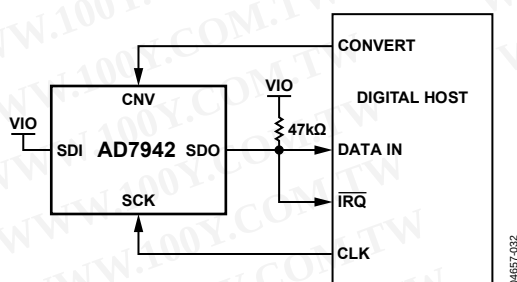
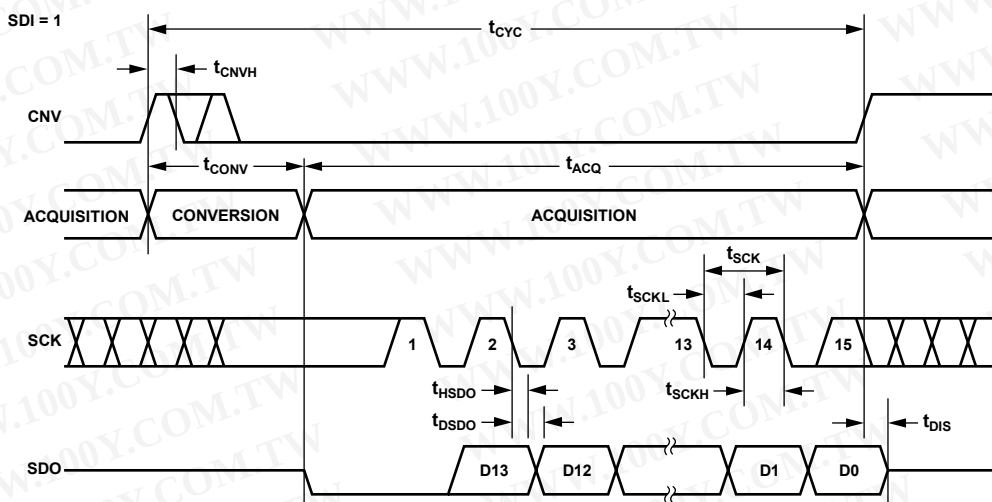
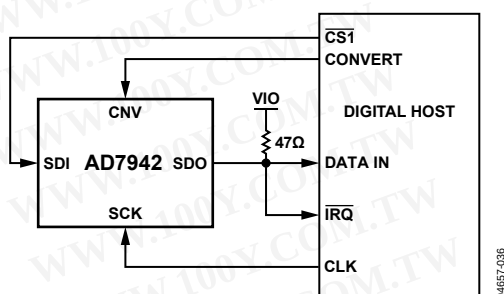
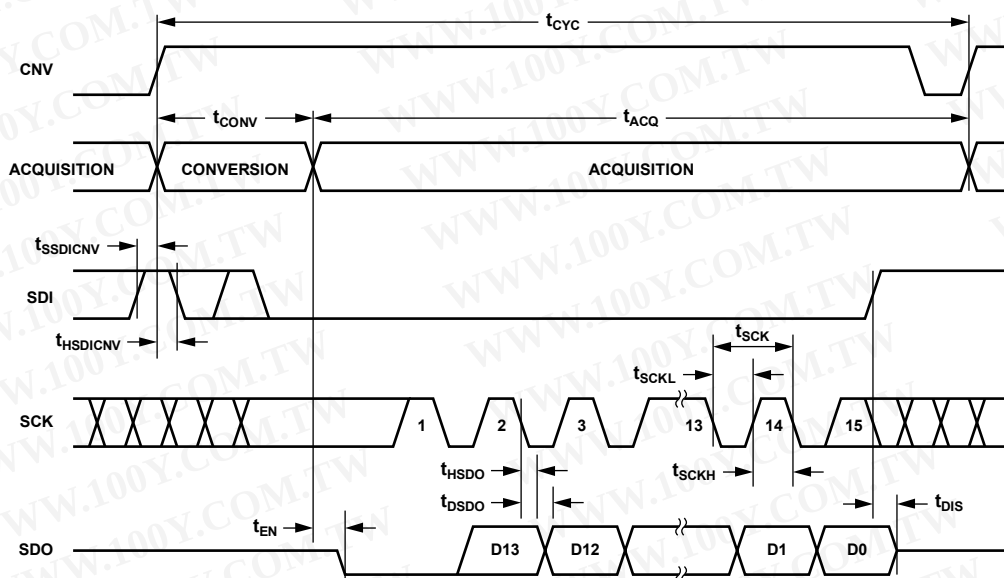

Figure 32. $\overline{CS}$ Mode 3-Wire with Busy Indicator Connection Diagram (SDI High)
Figure 33. $\overline{CS}$ Mode 3-Wire with Busy Indicator, Serial Interface Timing (SDI High)
Figure 36. CS Mode 4-Wire with Busy Indicator Connection Diagram
Figure 37. CS Mode 4-Wire with Busy Indicator, Serial Interface Timing
- In the $\overline{\text{CS}}$ mode, if CNV or SDI is low when the ADC conversion ends (see Figure 33 and Figure 37).
This mode is most often used when a single AD7942 is connected to an SPI-compatible digital host with an interrupt input. The connection diagram is shown in Figure 32 and the corresponding timing diagram is shown in Figure 33.
This mode is most often used when a single AD7942 is connected to an SPI-compatible digital host with an interrupt input and to keep CNV (which is used to sample the analog input) independent of the signal used to select the data reading. This requirement is particularly important in applications where low jitter on CNV is desired. The connection diagram is shown in Figure 36 and the corresponding timing diagram is given in Figure 37.